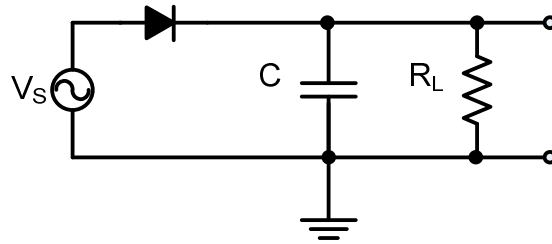

Fig. 1
A typical transistor amplifier circuit is shown Fig. 1.a. Figure 1.b is a simplified equivalent. Figure 2 shows a typical DC load line and a Q-point. The input AC signal disturbs the base current that in turn makes the Q-point move on the load line producing a proportionally larger disturbance in the collector current, thus producing amplification. Fig. 3 is the same as Fig. 1 with an AC input signal added.
A) Consider the circuit in Fig. 1.b with $R_C = 1.8 \text{ k}\Omega$, $R_B = 5.6 \text{ k}\Omega$, and $R_E = 0 \Omega$.
D) Repeat (B) above if R_E is changed to $1.8 \text{ k}\Omega$.